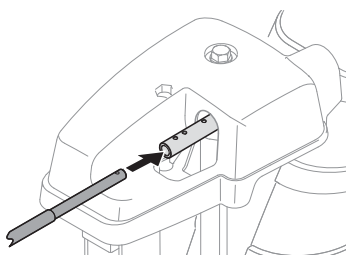

Figure 2-43
2. Insert round end of chute control rod into chute control head. Push rod as far into chute control head as possible, keeping holes in rod pointing upward. See Figure 2-43.